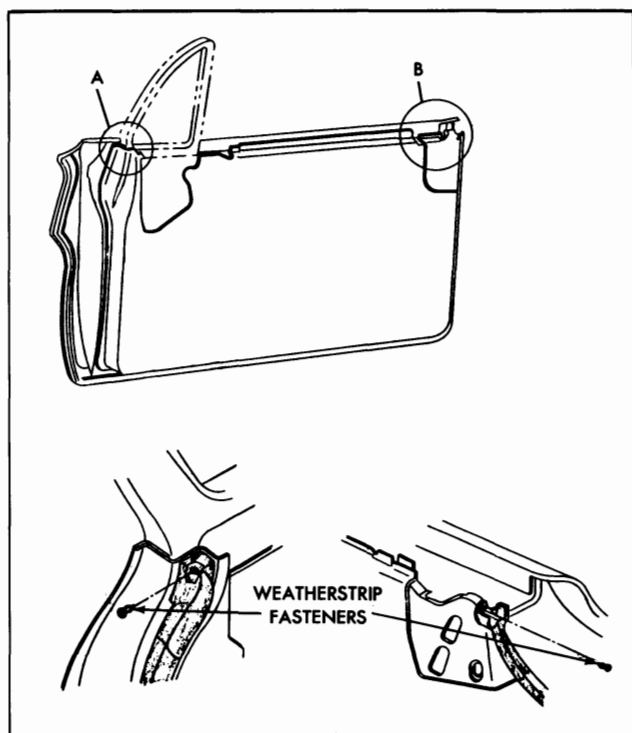

Fig. 3-6 Front Door Weatherstrip
1. On front doors, remove snap fasteners securing ends of weatherstrip at belt line of door hinge and lock pillar panels (Fig. 3-6).